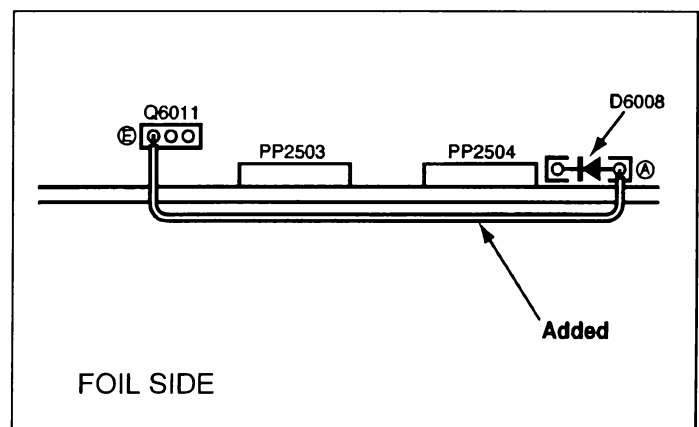

Figure 2
2. Between the Emitter of Q6011 and Anode of D6008. (Refer to Figure 2)